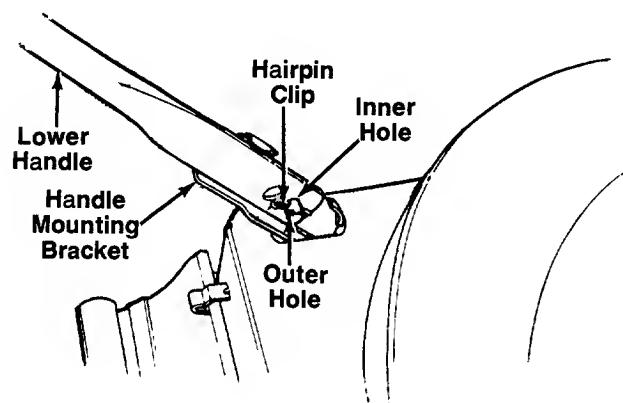

FIGURE 1.
1. Remove the hairpin clips from the holes in the handle brackets, which extend through the rear of the deck. See figure 1.
3. Using a pair of pliers, squeeze one leg of the lower handle against the handle mounting bracket. Insert the hairpin clip into the **inner** hole on the weld pin. See figure 1. Repeat on other side.
**NOTE:** There are two (2) holes in the handle mounting brackets. Place the hairpin clip in the **inner** hole for operation. Outer hole is for storage.